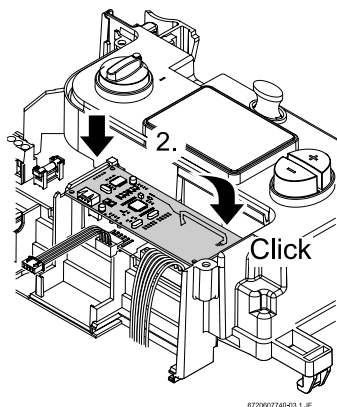

Fig. 5 Transceiver PCB
- Fix the transceiver PCB as show in Fig. 5.